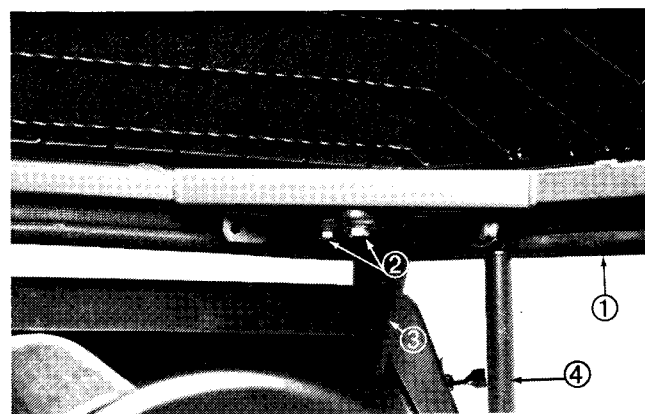

Figure 28
3. Use a hoist or two (2) other people to help hold hood. Remove four (4) capscrews securing hood to hinges (Fig. 28), disconnect gas spring rod ends from brackets and lift hood off of machine.
4. Remove drain plug from oil pan and drain oil from engine. Disconnect two (2) oil cooler hoses from right side of engine near oil filter. Put caps on open hose ends. Remove hose clamps securing oil cooler hoses to engine.